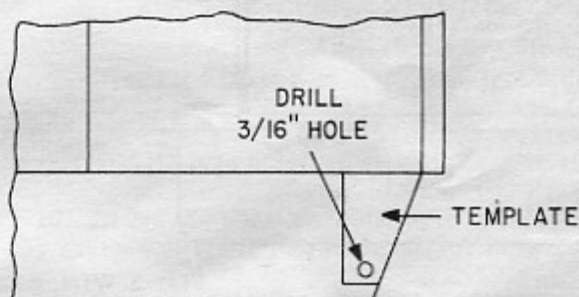

Fig. 1 Left Fender - Top View
4. Locate and drill a 3/16-inch hole in the left fender, using the template provided, as shown in Fig. 1.